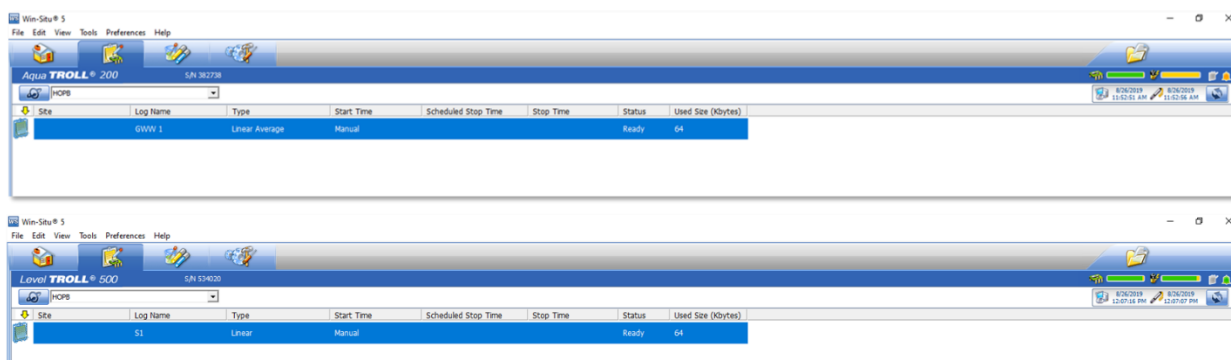

Figure 19. Select Log File - Aqua TROLL (Top) and Level TROLL (Bottom)
11. Once complete, the log file will show up under the logging tab as shown in **Figure 19**.